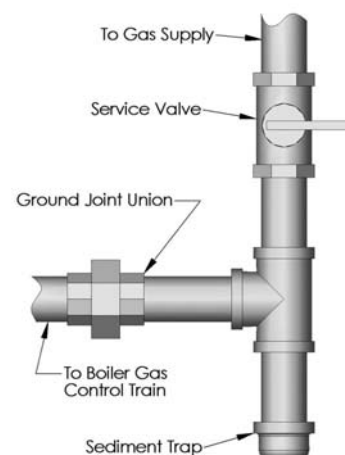

Figure 5.1
2. Install a service valve, sediment trap, and ground joint union at the gas supply connection as shown in Figure 5.1.